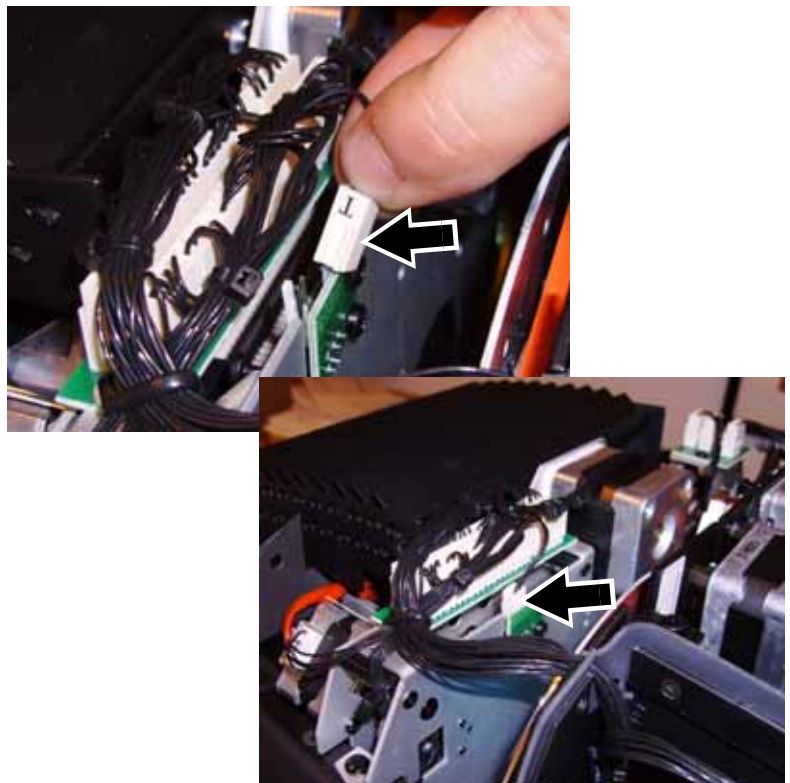

Figure 71
78. See Figure 71. Plug the connector marked T (arrowed) into the two-pin thermoswitch connector below the numbered connectors, facing the color wheel on the front of the CMY module.